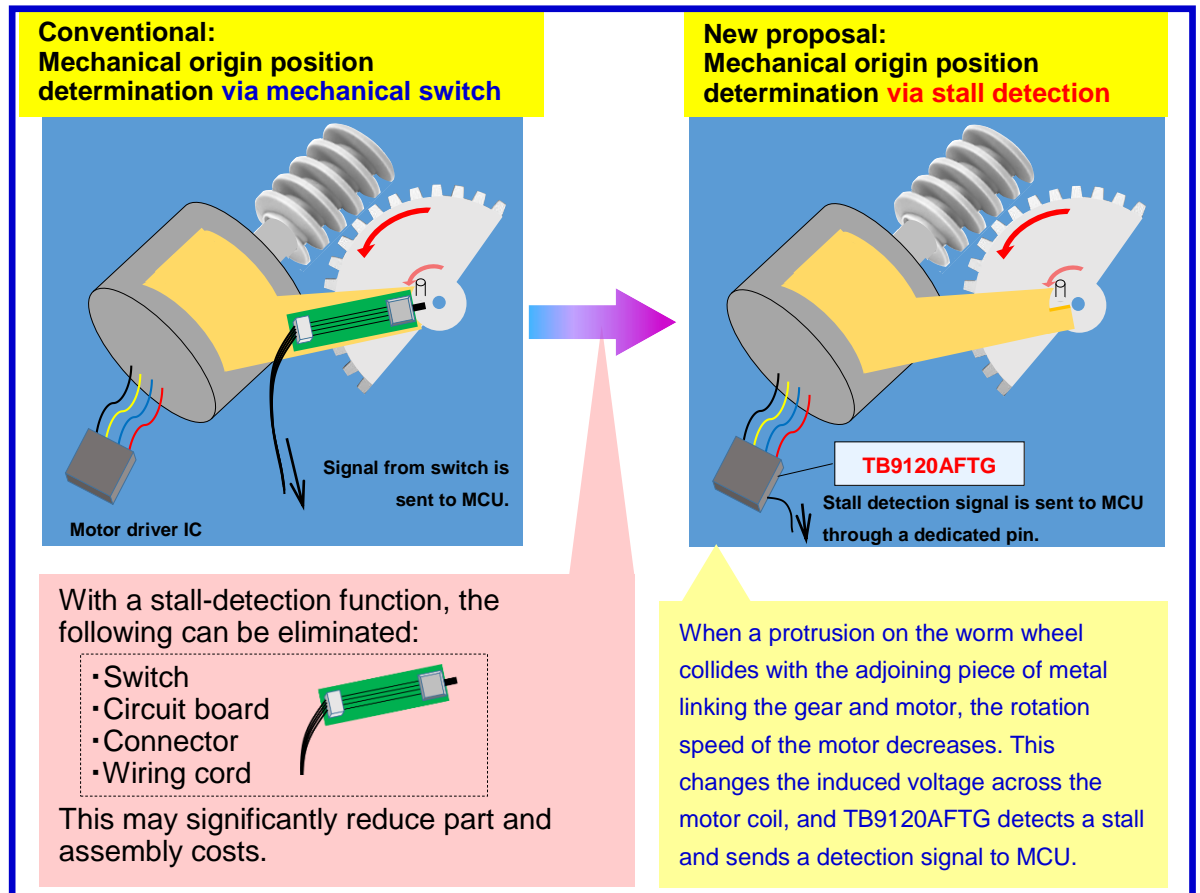

Figure 8. Application example and effect of a stall-detection function
- In a system that determines the mechanical origin position of the image-reflecting mirror inside a heads-up display shown in Figure 8, the stall-detection function may significantly reduce part and assembly costs.